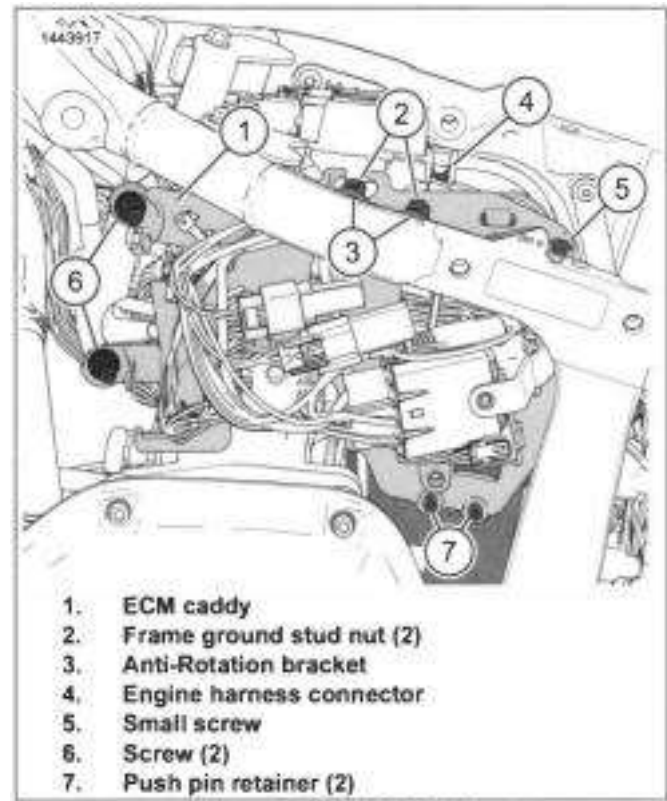

Figure 7-158. ECM Caddy
1. See Figure 7-158. Remove ECM caddy (1).
2. Remove frame ground stud nuts (2)
3. Remove anti-rotation bracket (3).
5. Disconnect engine harness connector (4).
7. Remove small screw (5).
8. Remove large screws (6).
9. From inside of battery tray, remove push pin retainers (7).
3. See See Figure 7-158.. Install large screws (6). Hand tighten.
4. Align holes in battery tray and ECM caddy. Install push pin retainers (7) from battery tray side.
5. Install small screw (5). Tighten.